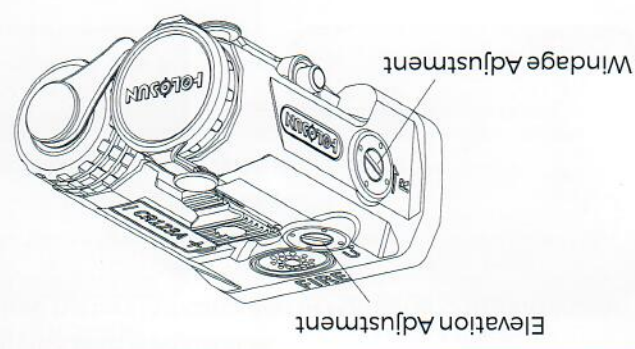

Fig 6
1. The Elevation adjustment is located at the top of the housing and the Windage adjustment is located on the right side of the housing. Adjustment can be performed by inserting the flat-tipped end of the included tool into the turret slot and rotating. (See Fig 6)